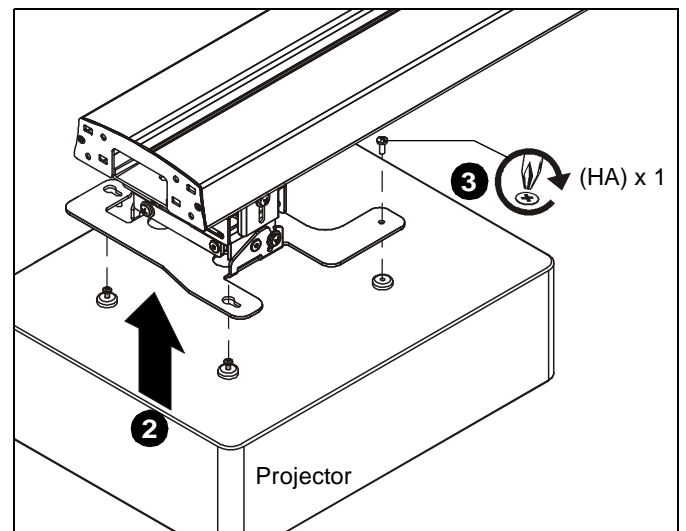

Figure 14
2. Raise the projector up to the projector arm and slide three screws into slots on the projector arm. (See Figure 14)
3. Add one remaining M4 x 10mm Phillips pan head screw (HA) through the projector arm and into the projector. (See Figure 14)